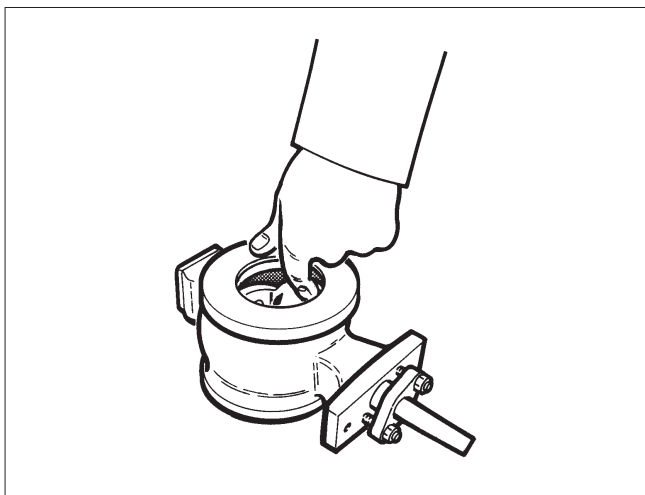

Fig. 10 Turning the ball segment
- Turn the segment (3) so that it does not touch the seat, Fig. 10.